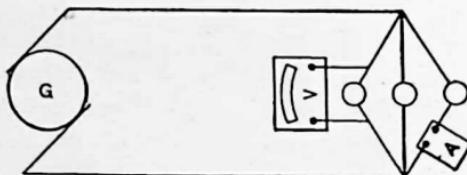

FIG. 49.
Problem 33. In Fig. 49, the three lamps have practically the same resistance. Voltmeter (V) reads 113 volts. Ammeter (A) reads 0.45 amp.